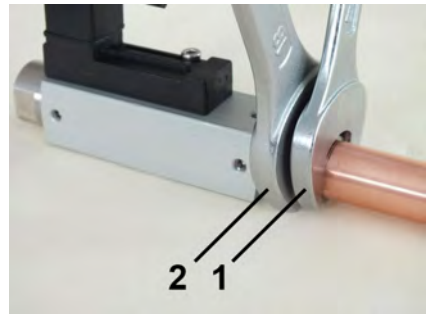

Fig. 12: Screw in the device
3. ➤ Keep turning in the adapter union (Fig. 12/1) while holding the process connection locked (Fig. 12/2) until the connection is tight